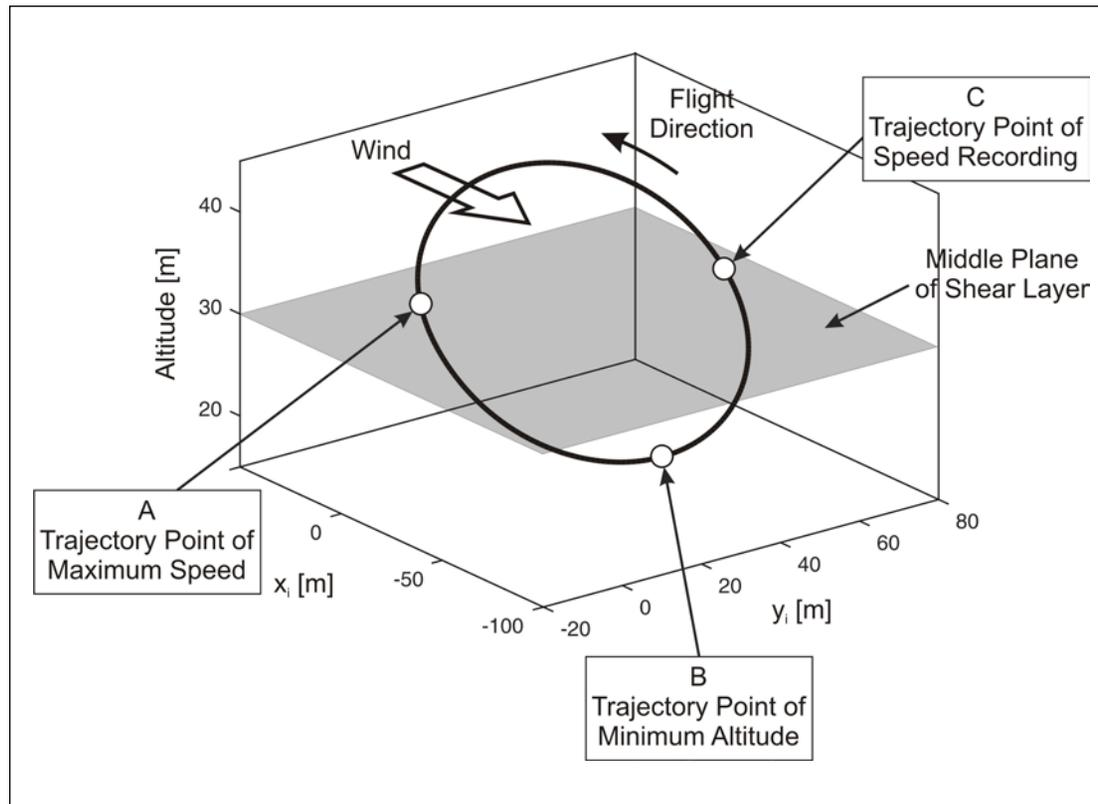
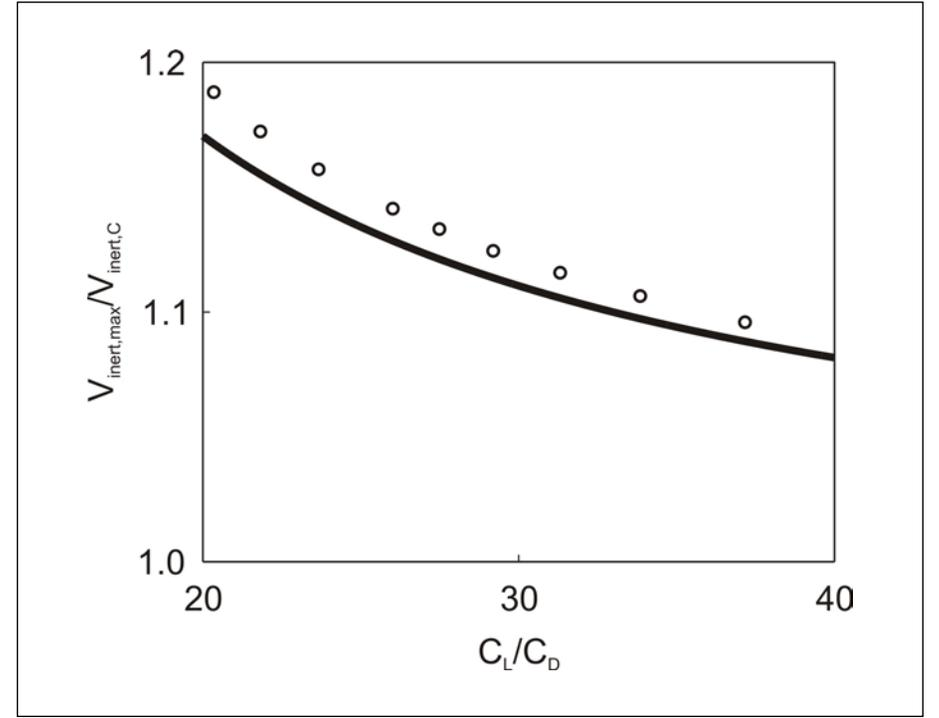

Figure 2. Dynamic soaring loop optimized for maximum speed.
Figure 5. Dependence of speed ratio  $V_{inert,max} / V_{inert,C}$  on lift-to-drag ratio  $C_L / C_D$ .
Results achieved with the described procedure of optimizing dynamic soaring for the maximum speed are presented in Fig. 2. This Figure provides a perspective view on the closed loop trajectory and shows the spatial extension and the relation to the wind.
An evaluation of Eq. (11) is presented in Fig. 5 which shows the dependence of  $V_{inert,max} / V_{inert,C}$  on  $C_L / C_D$ . The range of  $C_L / C_D$  is selected such as to cover the values usually holding for model gliders applied in achieving high speeds. Therefore, the results presented in Fig. 5 can be considered to be generally valid for high-speed dynamic soaring.
Also in Fig. 5, results are presented which were obtained by optimizing dynamic soaring for maximum speed using the complete mathematical models of the glider flight mechanics and the shear wind, as described in the preceding chapter (with outcomes presented in Figs. 2 and 3). The complete modelling results which are denoted by the  $\circ$  symbol are close to the curve determined by Eq. (11), to the effect that that both kinds of results compare well. This close agreement can be understood as a confirmation of the above treatment based on the work and energy balance that has led to the relation between  $V_{inert,max}$  and  $V_{inert,C}$  given in Eq. (11).
assumed that the  $V_{inert,max} / V_{inert,C}$  ratio is 1.15, according to Figs. 5 and 7. Then, the maximum speed would be obtained as  $V_{inert,max} = 621$  mph.